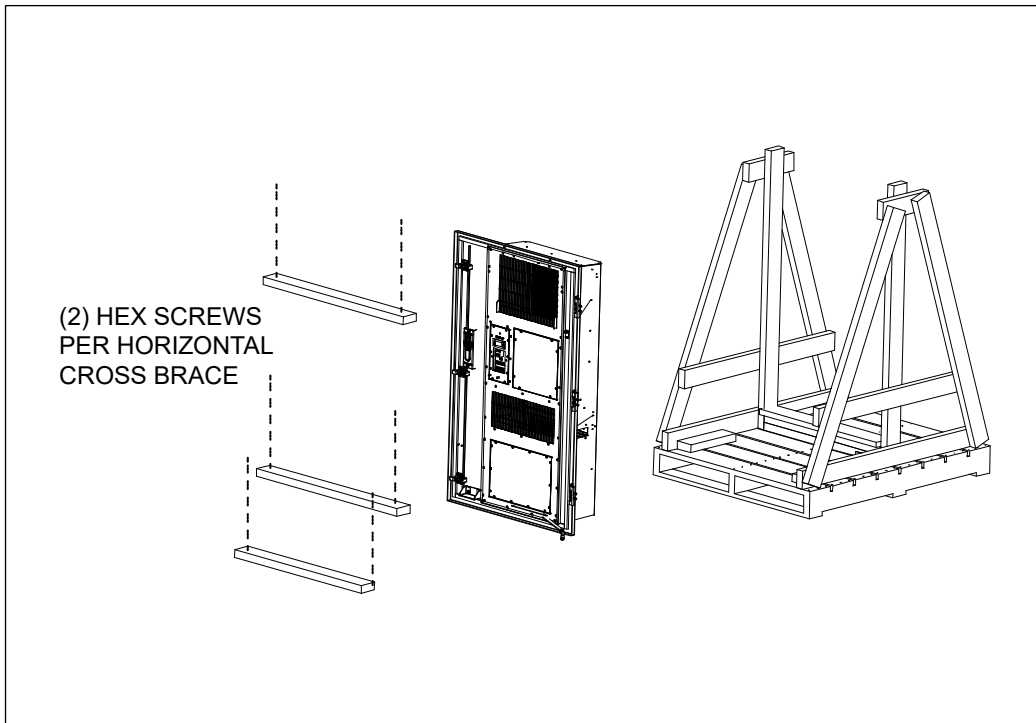

Figure 2 Location of Cross Brace Screws
1. Locate the cross braces on the back of the kit replacement door. Figure 2 shows three cross braces. Some kits may have more or fewer.
4. While supporting the door weight, secure the door into position by lowering the hinge pins through the hinge knuckles into the lowest pin position. A hammer or mallet may be necessary to lower the hinge pin all the way through the knuckle. Secure the pin by placing the retainer clip in the bottom position (Figure 2).